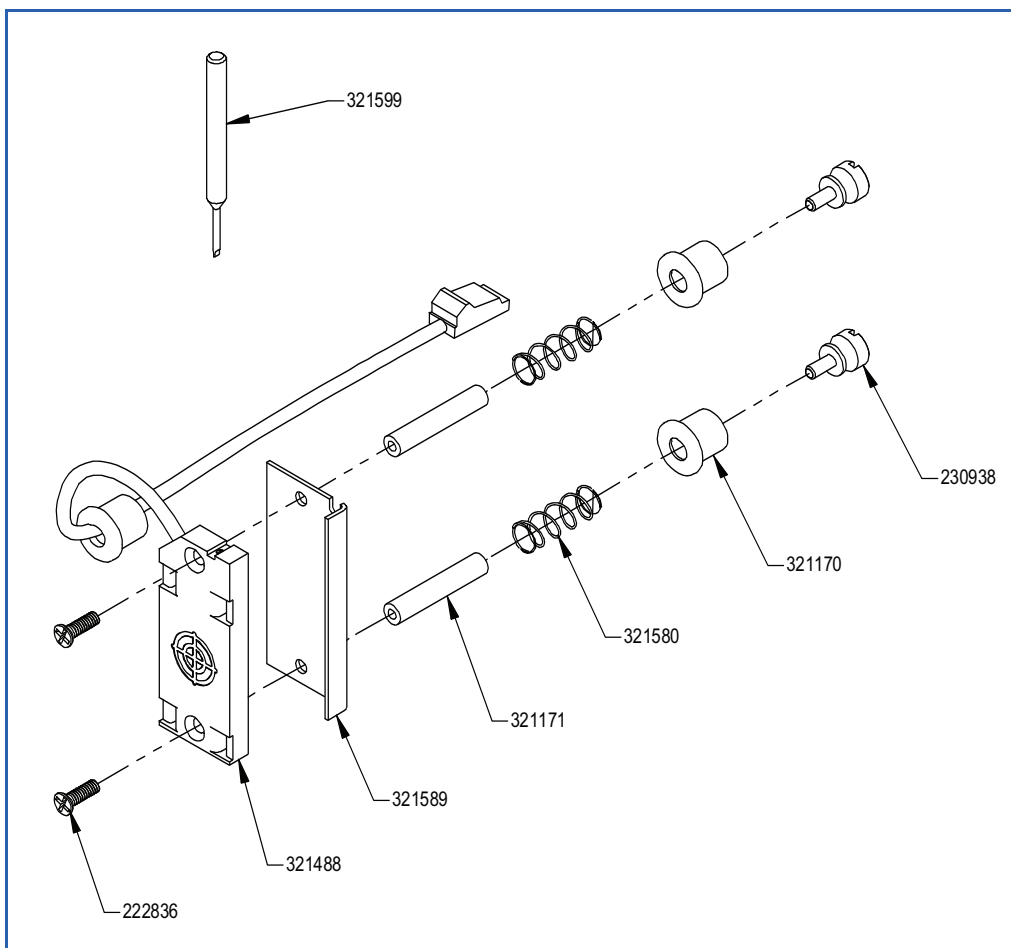

Figure 10.11. Sparge Overfill Sensor
1. Place the SOS on the heat shield (PN 321589) with the printed side down and the target (cross) side up (see Figure 10.11, “Sparge Overfill Sensor” on page 183).